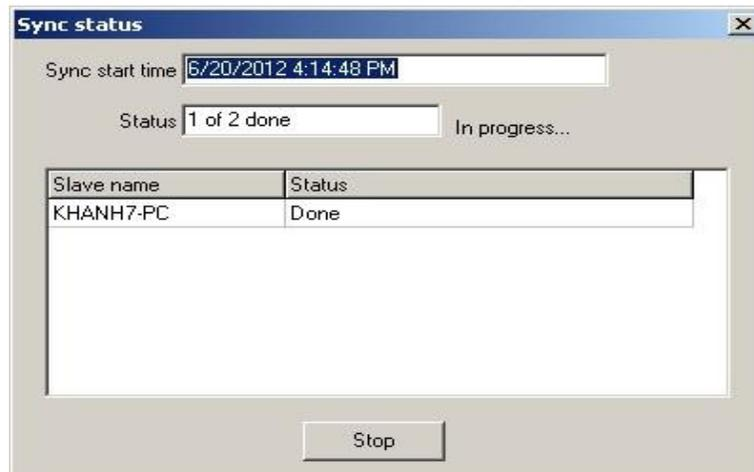

Figure 44
2. You will see the following window as sync is in progress (Figure 44).